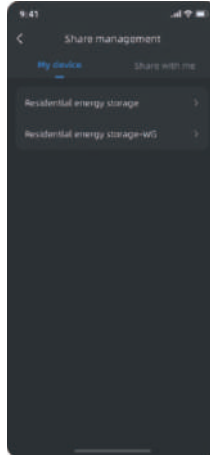

Figure 1
1)Figure 1: Display the bound devices, select the device to enter the "**Device Sharing**" page.